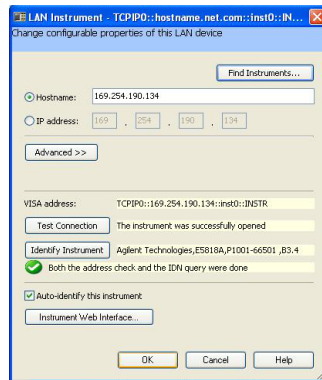

Figure 9 Configuration Properties for Selected Instrument
- 5 Click **OK** when you are satisfied that the correct instrument has been located and selected. You now see the *LAN Instrument configuration* dialog box displayed including information from your selected instrument, as shown in Figure 9.